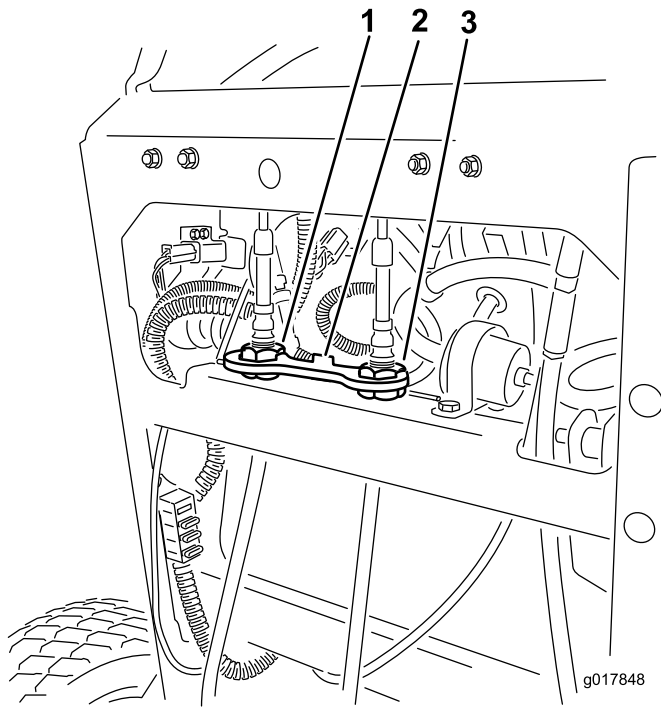

Figure 57
4. Lift and remove the cable lock securing the cable adjusting nuts (Figure 57).
5. Rotate the right cable adjustment to position the right motion control in the center of the control panel neutral lock slot (Figure 57).
10. Install the cable lock onto the cable adjusting nuts to secure the adjustment (Figure 57).